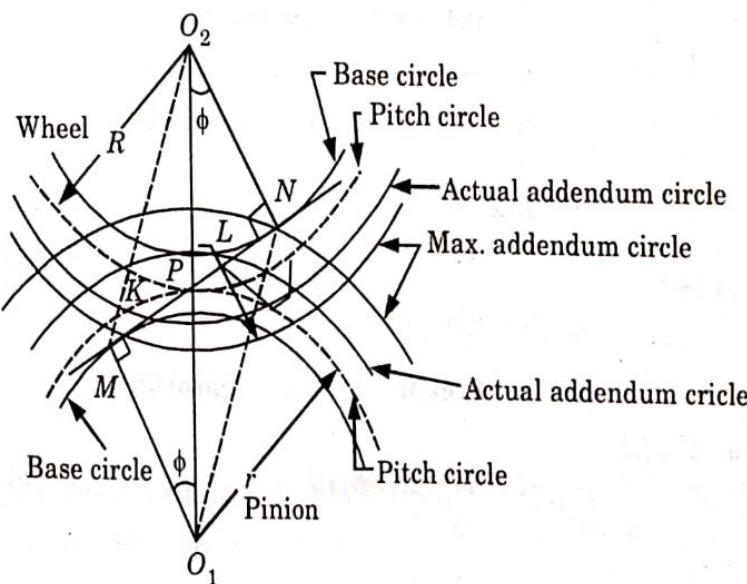

Fig. 2.20.1. Interference in involute gears.
1. Fig. 2.20.1 shows a pinion with centre O_1 , in mesh with wheel or gear with centre O_2 . MN is the common tangent to the base circles and KL is the path of contact between the two mating teeth.
2. The maximum length of path of contact is MN , when the maximum addendum circles for pinion and wheel pass through the points of tangency N and M respectively as shown in Fig. 2.20.1.